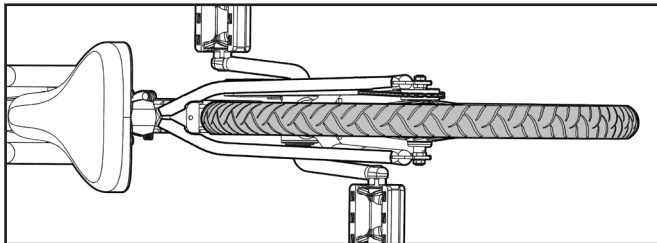

Figure 52
**NOTE:** Make sure the rear wheel is centered in the bicycle frame (see Figure 52).